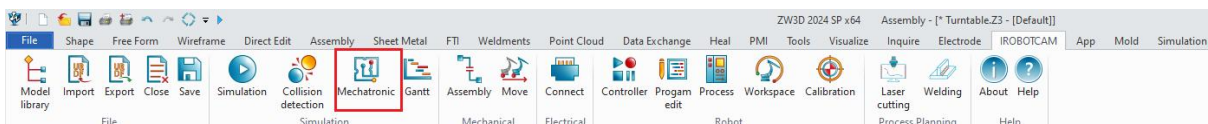

Figure 13-13: Mechatronic
- Click the "Mechatronic" button.(Figure 13-13)